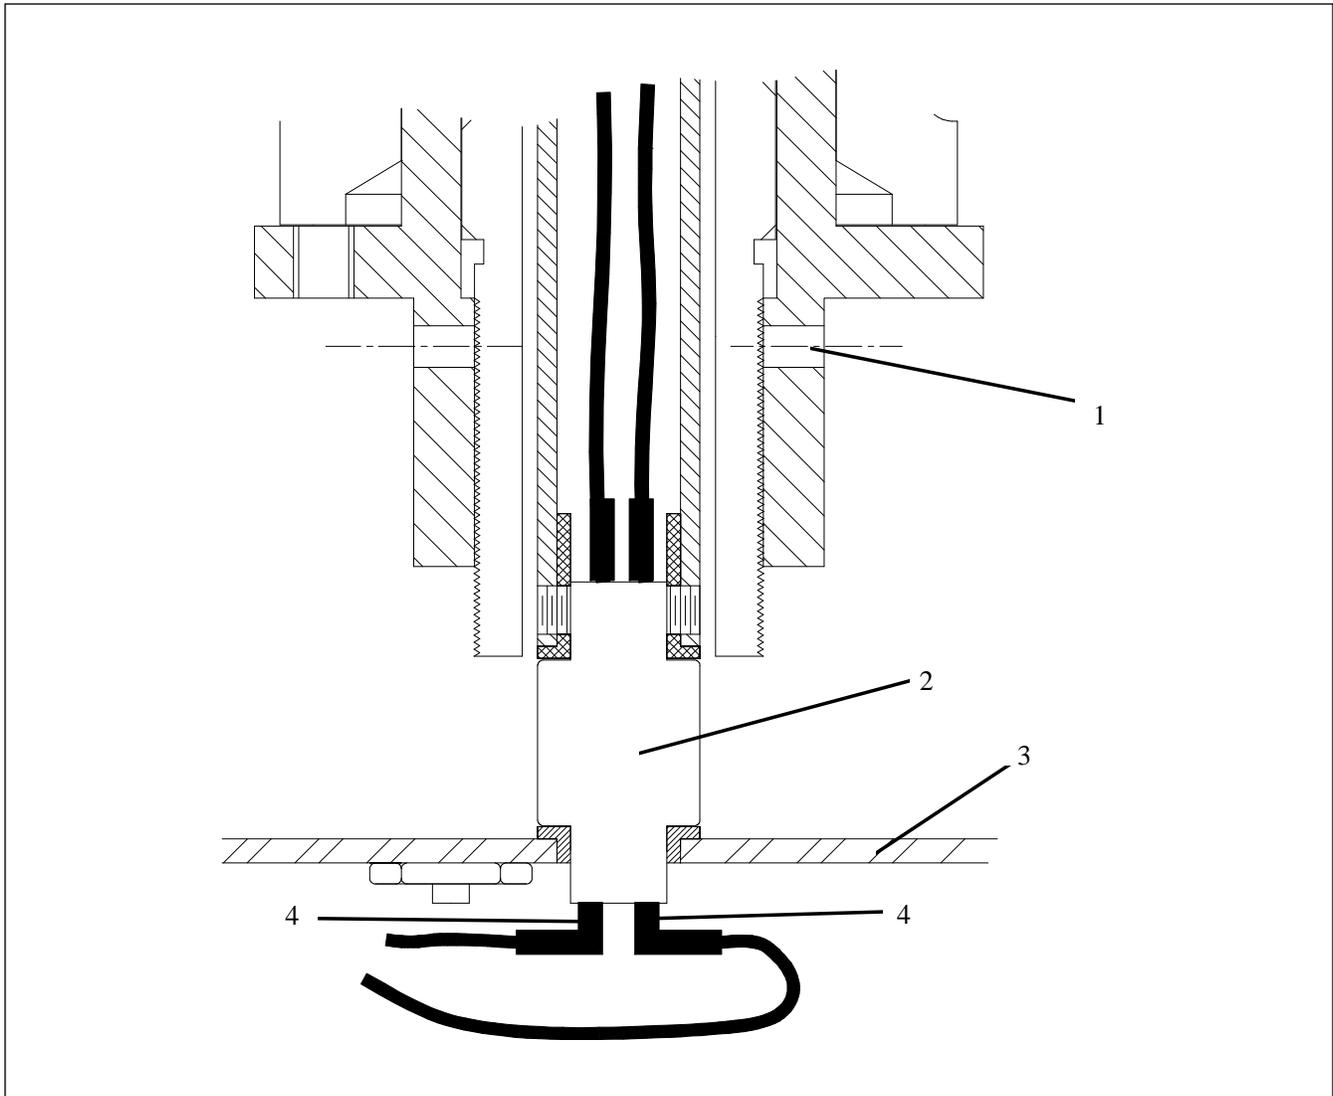

Figure 9. Removing Disconnects
2. See Figure 9. Look underneath the beacon assembly and locate the PRC mounting plate assembly (3). Reach under the plate and remove the two 90-degree disconnects (4) from the bottom terminals of the PRC. Take care in removing the terminals.
- c) See Figure 9. Note the location of the two tapped holes (1) that have been cross-drilled through the thread found on the end of the beacon shaft. Align these cross drilled/tapped holes with the mating cross-drilled holes in the side of the brass collar.
3. Disconnect the two PRC wire leads (5) that come up through the PRC shaft, at the terminal block. Remove any wire tie wraps that have been used to dress these two wires.
4. Look underneath the beacon assembly and locate the PRC mounting plate assembly (4).
5. See Figure 9. Reach under the plate and remove the two 90-degree disconnects (4) from the bottom terminals of the PRC.